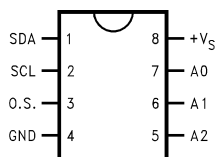

Figure 2. SOIC-8 and VSSOP-8 Packages
- (1) LM75A θ_{JA} (thermal resistance, junction-to-ambient) when attached to a printed circuit board with 2oz. foil similar to the one shown in Figure 2 is summarized in the table below the Operating Ratings table.
- (2) Reflow temperature profiles are different for lead-free and non-lead-free packages.